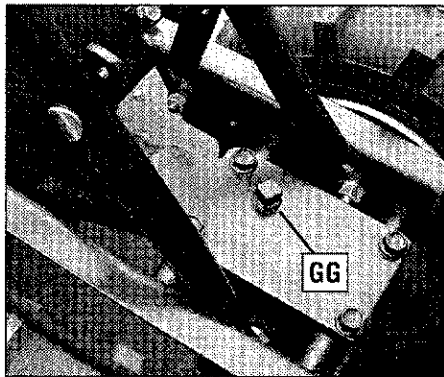

Fig. 2-9: Remove gear oil fill plug.
2. Remove the oil fill plug (GG, Fig. 2-9) from the transmission housing cover and locate the main drive shaft situated inside the housing.